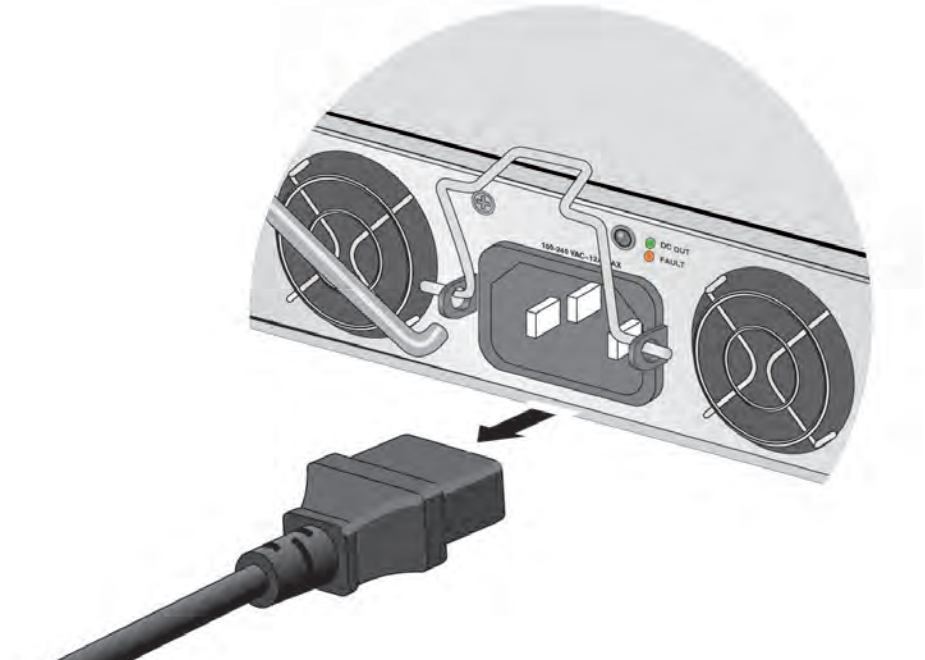

Figure 92. Disconnecting the Power Cord from the Power Supply
2. Disconnect the AC power cord from the AC power supply. Refer to Figure 92.